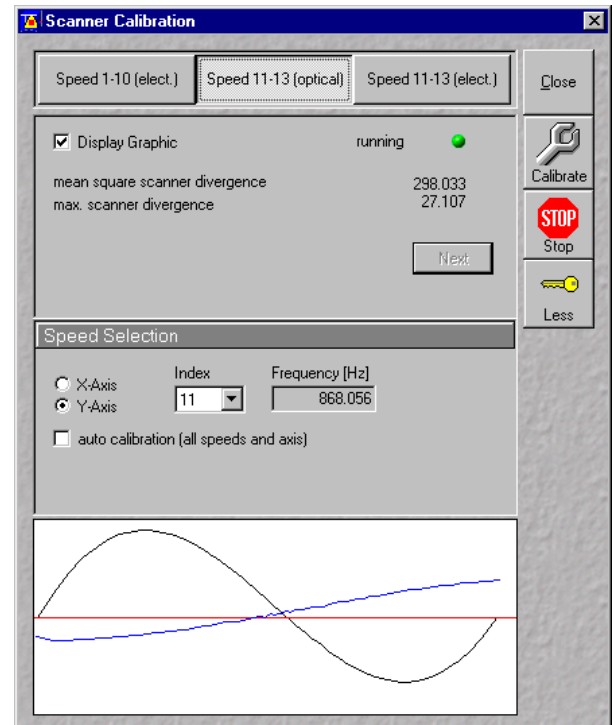

Fig. 4-228 Scanner Calibration window
- After calibration of X-axis the orientation of the calibration grid in the calibration window changes from horizontal to vertical orientation. The second grid of the calibration sample has to be selected and again positioned as indicated in Fig. 4-228. Click on the **Next** button and continue with Y-scanner calibration.